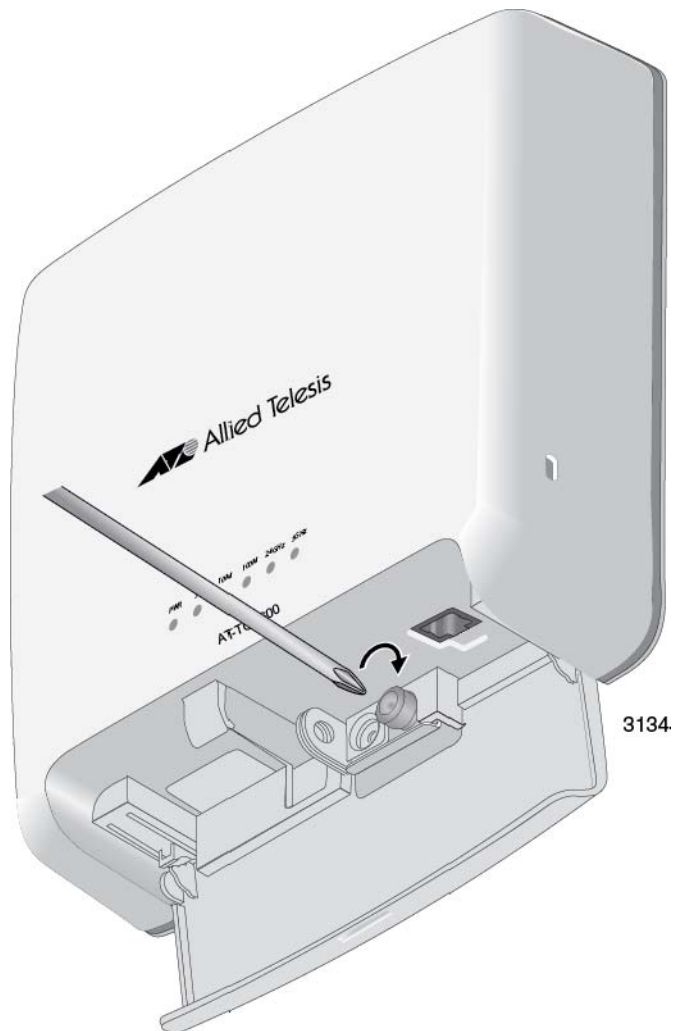

Figure 24. Tightening the Captive Screw
6. Open the front panel and use a #2 Phillips-head screwdriver to tighten the captive screw to secure the access point to the bottom panel. Refer to Figure 24 on page 48.